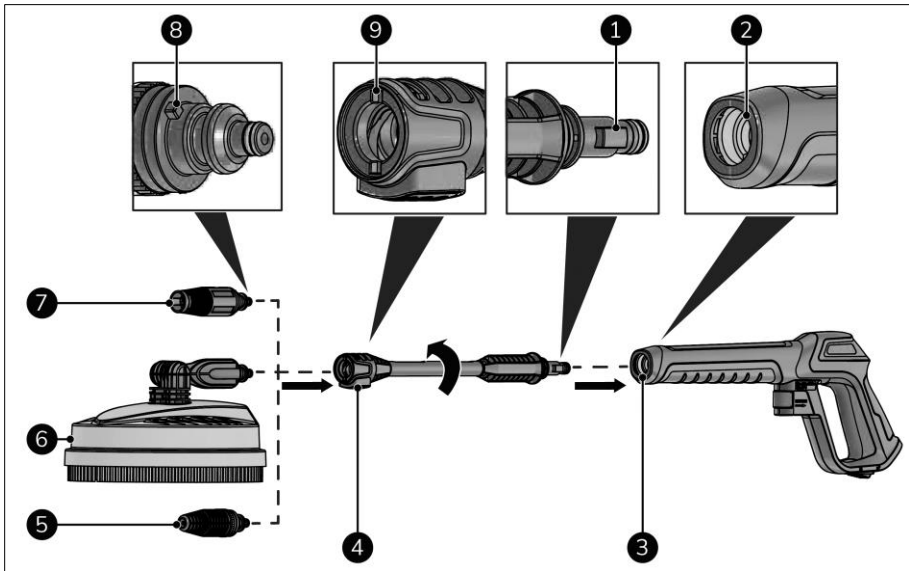

Figure 13
1. Align the ridge of the nozzle or the floor cleaner (Figure 13, pos. 8) with the groove in the extension lance (Figure 13, pos. 9).
2. Insert the nozzle or floor cleaner (Figure 13, pos. 5, 6 or 7) into the extension lance (Figure 13, pos. 4).
4. Align the ridge of the extension lance (Figure 13, pos. 1) with the groove in the jet gun (Figure 13, pos. 2).
5. Insert the extension lance (Figure 13, pos. 4) into the jet gun (Figure 13, pos. 3).